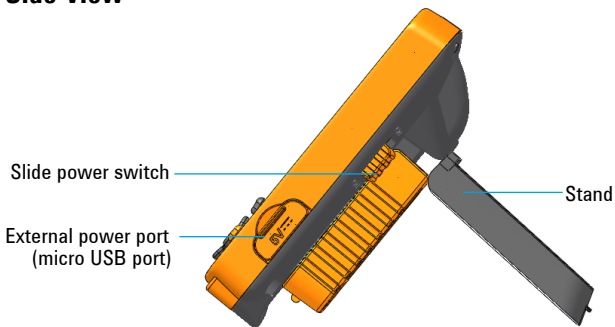

Figure 3 Side view of the U1115A Remote Logging Display (standing position)
- 1 Plug the micro USB head to the micro USB port on the side of the U1115A. (refer to figure 3)